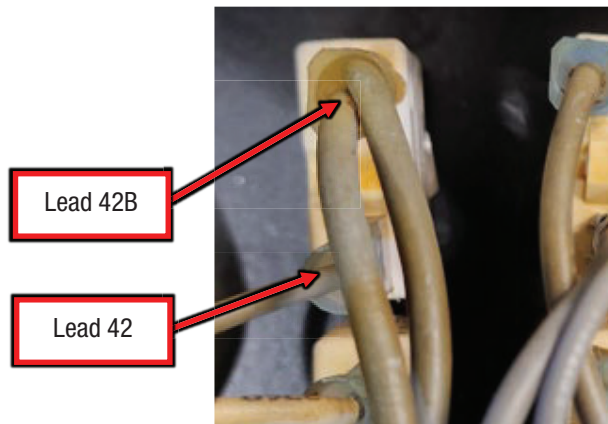

Figure F.2
A.2. Label and disconnect the following connections on CB4, refer to Figure F.2.